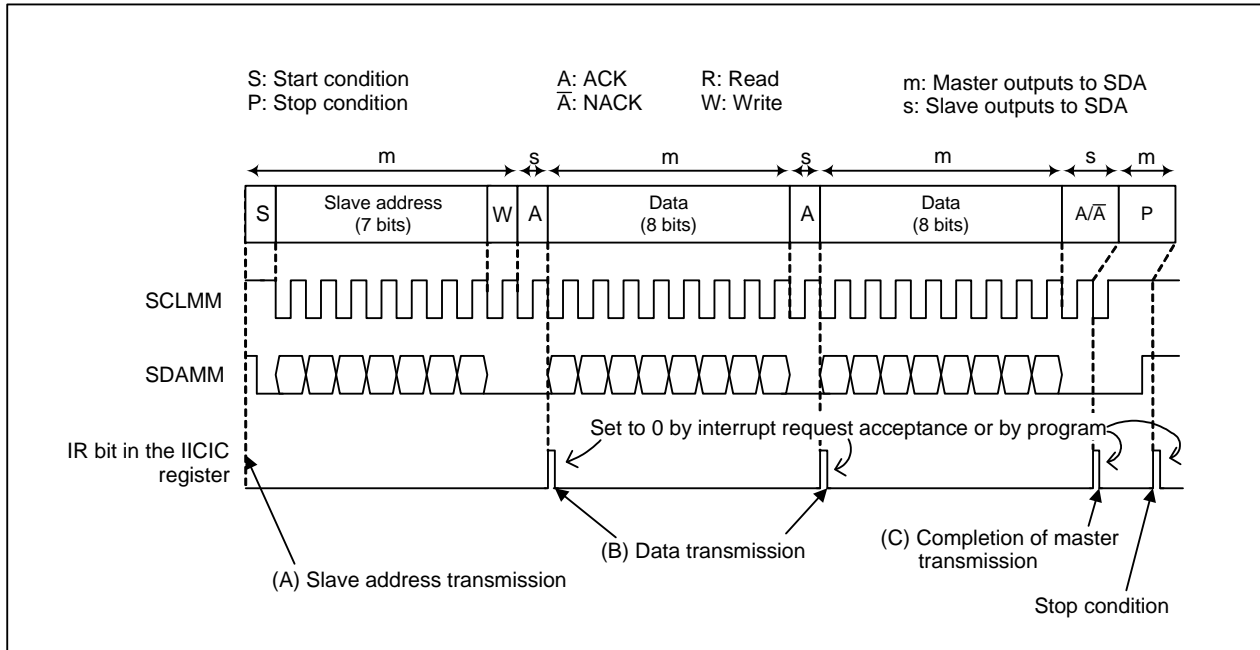

Figure 25.17 Example of Master Transmission
Master transmission is described in this section. The initial settings described in 25.3.10.1 “Initial Settings” are assumed to be completed. Figure 21.17 shows master transmission operation. The following programs (A) to (C) are executed at (A) to (C) in Figure 25.17, respectively.